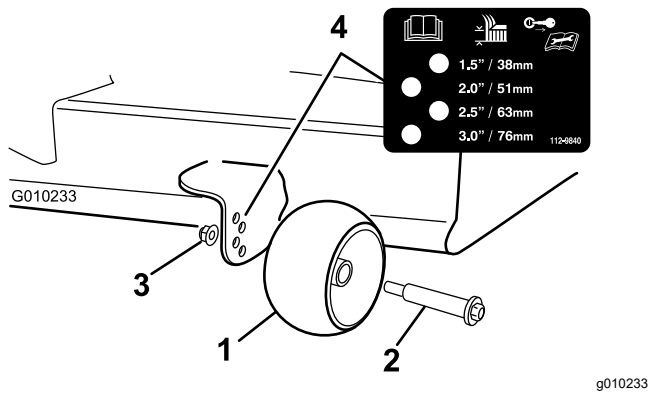

Figure 24
- Adjust the anti-scalp rollers as shown in Figure 24.